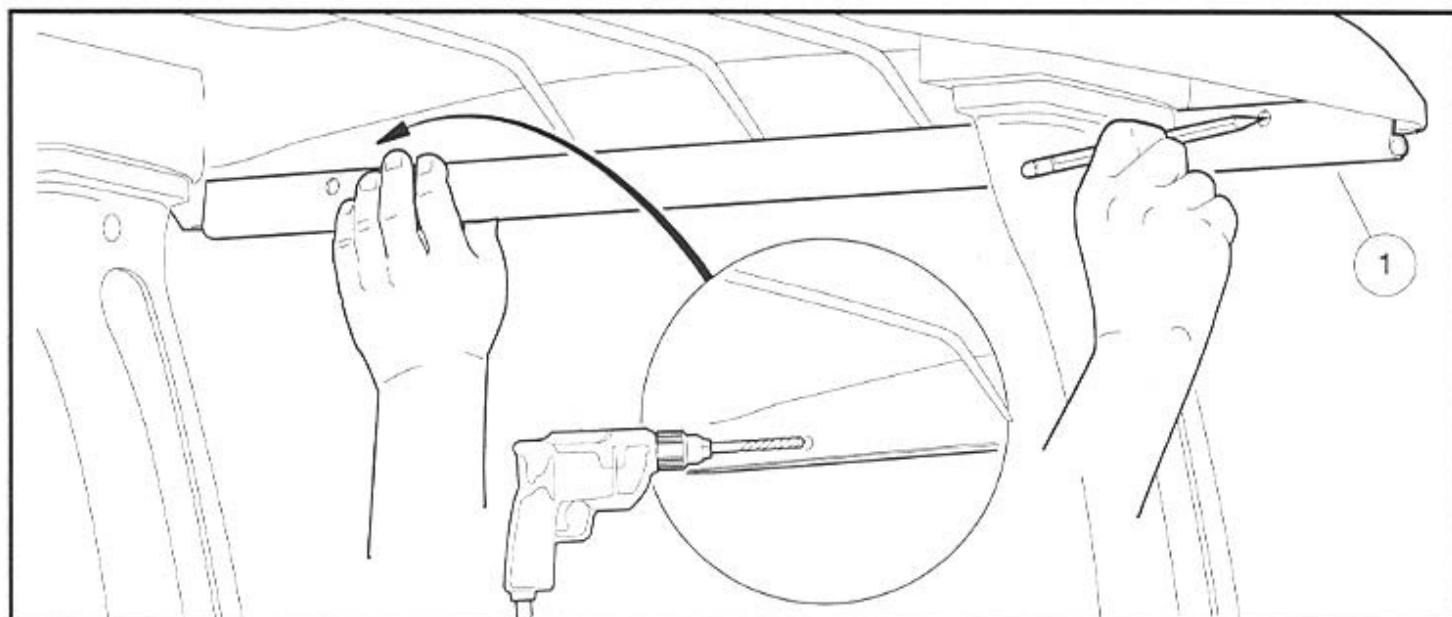

Figure 4 Mark and Drill Holes for the Tracking Bar
- 2.2. Mark the location of the holes and drill the two holes with a 9/32-inch drill bit (Figure 4).